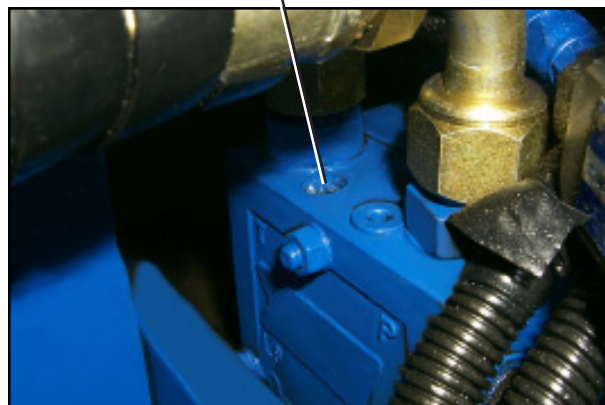

Figure 2.8
8. Retract and maintain the arm to the end of its stroke using the lever no.:2 (Figure 2.8) in order to make the hydraulic pressure to rise on the pressure gauge.
9. Adjust the main relief valve to 2000 PSI using the adjustment screw (Figure 2.8) turning the hex key clockwise or counter clockwise.